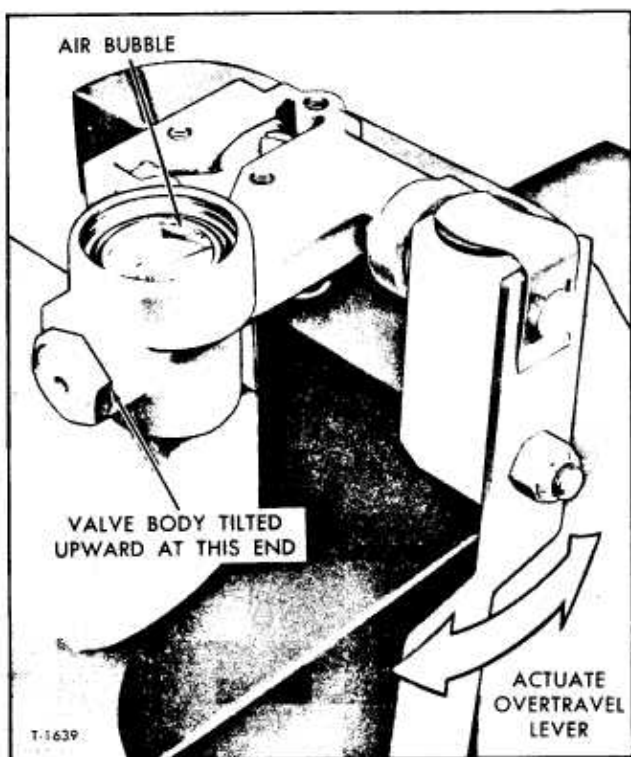
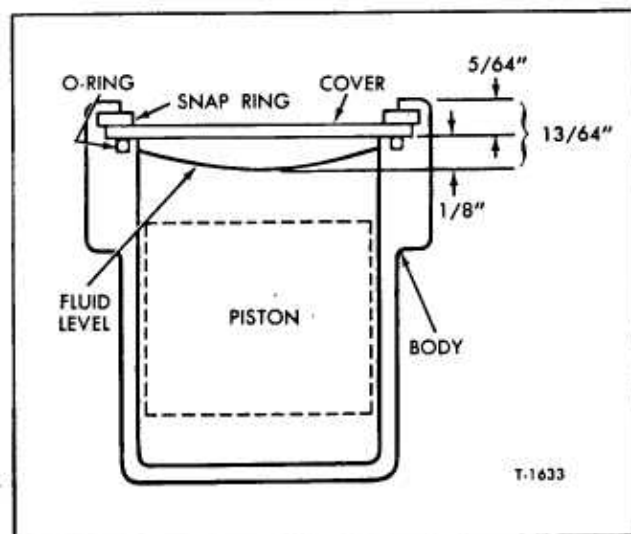

Figure 34-Venting Air From Silicone Fluid
Figure 35-Silicone Fluid Level
1. Pour 5.5 cc \pm 0.25 cc of Silicone fluid (3,000 Centistokes viscosity at 25°C.) into delay piston bore. With valve body tilted slightly, as shown in Figure 34, carefully operate overtravel lever fore and aft to vent air from fluid. When all air has been expelled from piston pin cavity, check fluid level (figure 35).
IMPORTANT: With valve assembly level, take measurement from center of bore only. Add or remove fluid to bring fluid to dimension shown in Figure 35. An eyedropper will serve for this purpose.